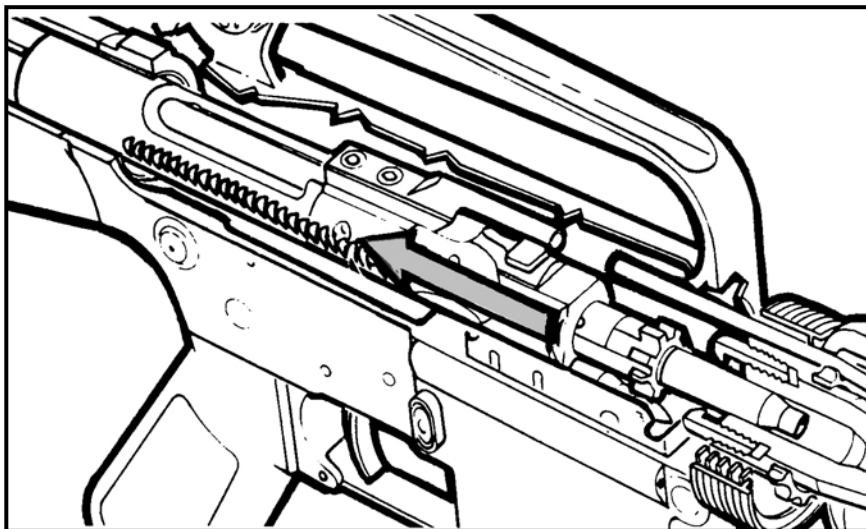

Figure 4-8. Extracting.
f. **Extracting** (Figure 4-8). The bolt carrier group continues to move to the rear. The extractor (which is attached to the bolt) grips the rim of the cartridge case, holds it firmly against the face of the bolt, and withdraws the cartridge case from the chamber.